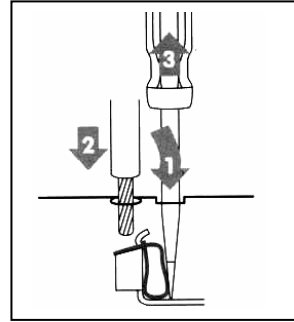

Fig. 2-7 Connection of spring terminals
A screwdriver with a maximum blade width of 2.5 mm is required to connect the cables. It is pressed into the rectangular opening (1). This opens the spring bracket. The stripped cable is pushed through the round opening to the stop (2). The cable is contacted tightly in the spring bracket by pulling out the screwdriver (3). (Fig. 2-7)